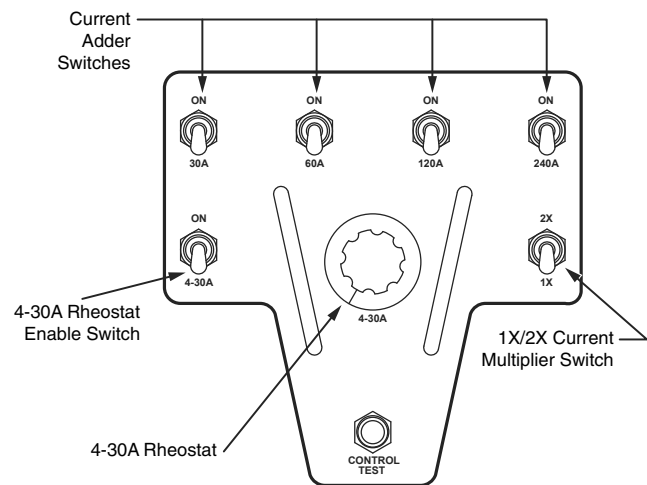

Figure 5. VFI tester current adjustment switches.
3. Connect the 14-pin female/18-pin male interrupter interface cable (Item 1) to the VFI tester at the interrupter port. Refer to Figure 5 for steps 3 through 8.
3. Disconnect the 18-pin female connector end of the tester control interface cable (Item 2) from the 18-pin male header of the Tri-Phase/TPG board. Refer to Figure 5 for steps 3 through 7.
Test current values are set by selectively closing a group of toggle switches controlling a stepped network of resistors within the VFI tester unit (Figure 5). Placing the 4-30 A toggle switch into the ON position enables operation of a 4-30 A fine adjustment rheostat for precise adjustment of test current levels.